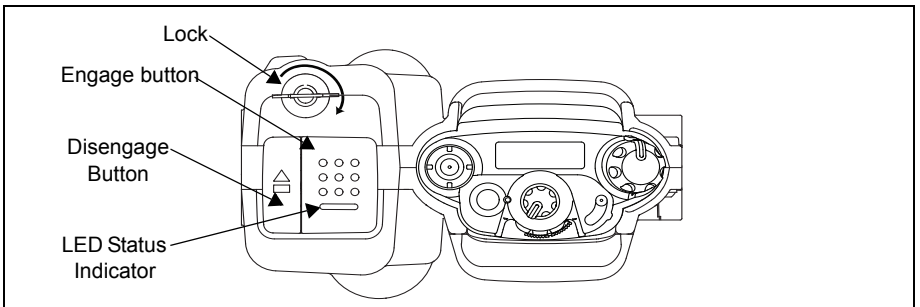

Figure 10: APX VA Mechanisms for Radio Installation/Extraction
3. Push inward on the Engage Button (see Figure 10) until the radio is securely latched into the APX VA pocket.
A light-emitting diode (LED), located within the Engage Button of the APX VA (see Figure 10), indicate charging conditions and audio accessory (microphone) operating modes.
2. Press the purple disengage button (see Figure 10) to release the radio from the APX VA.